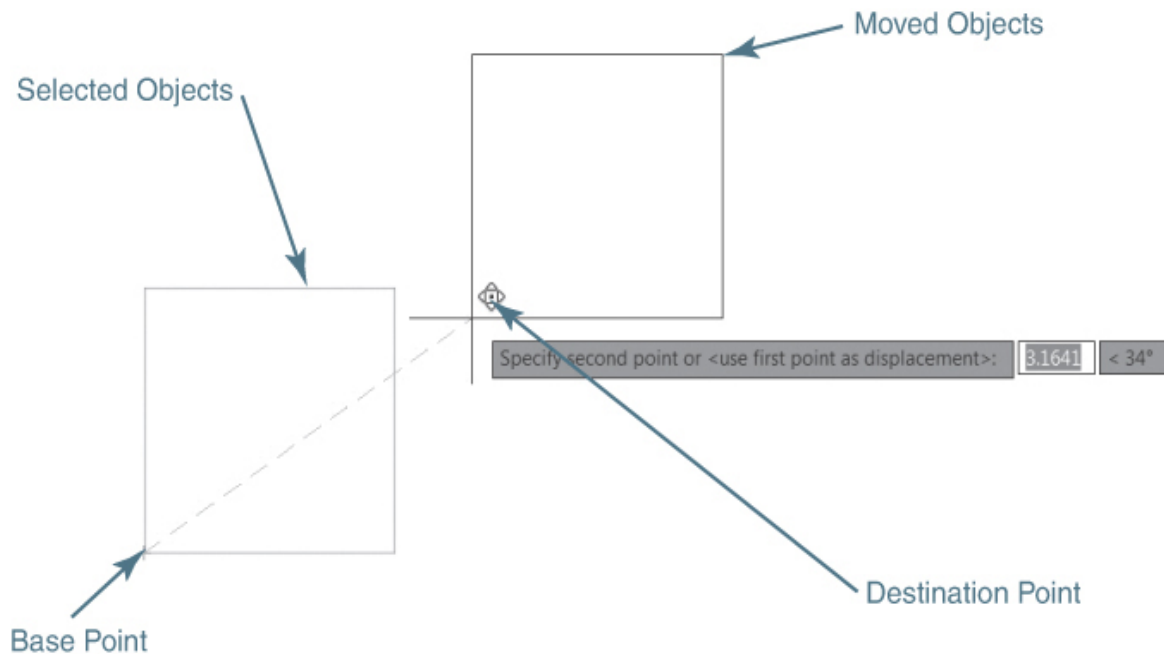

Figure 7-22
then pick a destination (*to*) point, and the selected objects are moved to the new location (see Figure 7-22).
- 3 Snap to the lower-left corner of the square using the **Endpoint** object snap as shown in Figure 7-22.
- 4 Move the square using a second pick point as shown in Figure 7-22.